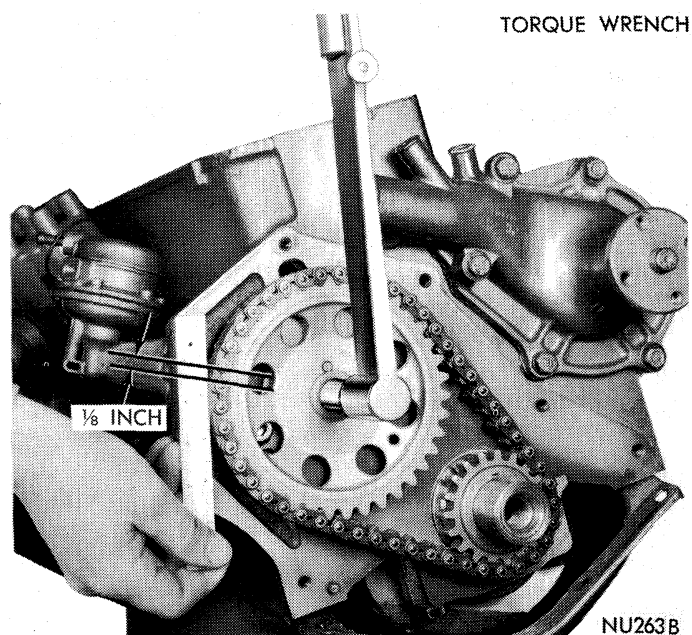

Fig. 18—Measuring Timing Chain Wear and Stretch
(3) Holding a scale with dimensional reading even with the edge of a chain link, apply torque in the reverse direction 30 foot-pounds (cylinder head installed) or 15 foot-pounds (cylinder head removed) and note the amount of chain movement (Fig. 18).
(4) If chain movement exceeds 1/8 inch, install a new timing chain.
(5) If chain is not satisfactory, remove camshaft sprocket attaching bolt and remove timing chain with camshaft sprocket.
(6) Turn crankshaft to line up the centerline of camshaft and crankshaft with the timing mark on crankshaft sprocket.
(7) Install camshaft sprocket and timing chain.